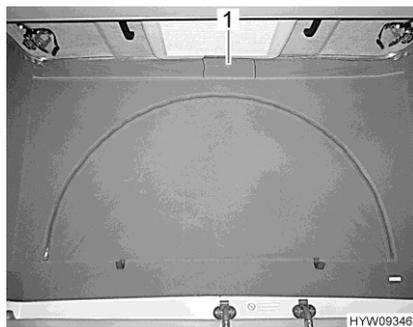

Fig. 85 Ventilation (closed)
- Release the Velcro of the fabric flap (Fig. 85,1) underneath the elevating roof. A mesh is installed behind the fabric flap as protection from insects.